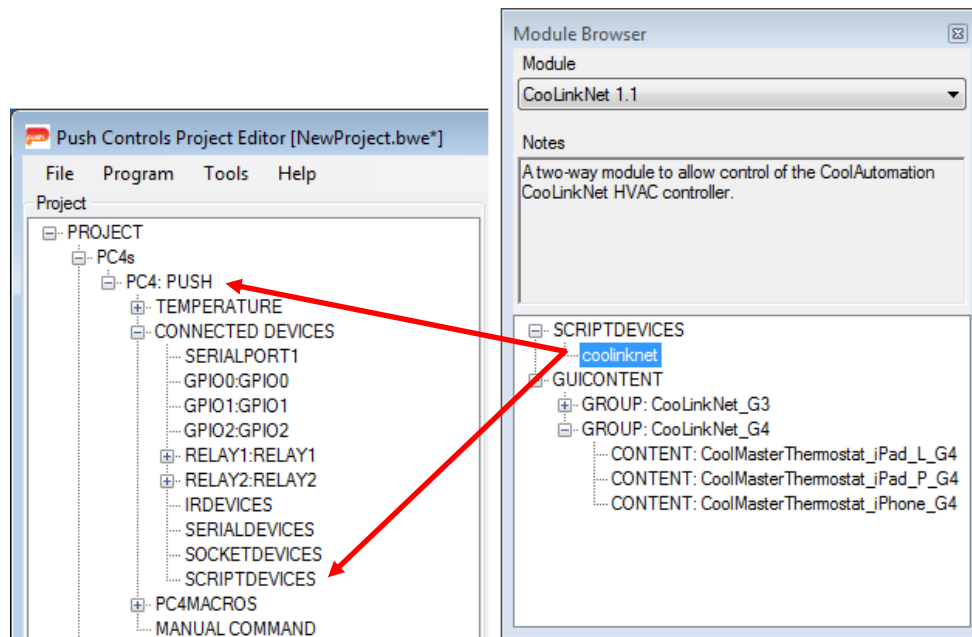

Figure 3 – Dragging and dropping content from the Module Browser window
The selected module will now appear in the module browser window (See Figure 3), where you can see everything that is included in the module.
Each of the elements contained in the module need to be dragged and dropped into their respective positions within the project. The items under the SCRIPTDEVICES category need to be dragged onto the desired Push Controller. The GUICONTENT area of the CooLinkNet_CoolMasterNet module includes CONTENT which is imported in the following manner *Refer to Figure 3:*
- CONTENT requires an existing page to be dragged in to and requires the HVAC Coolmaster script to be imported before adding GUI component to the page. To include content you can either drag it onto the page name (see Figure 3) or drag onto an open GUI page (hold down shift to drag the content to any position on the page).